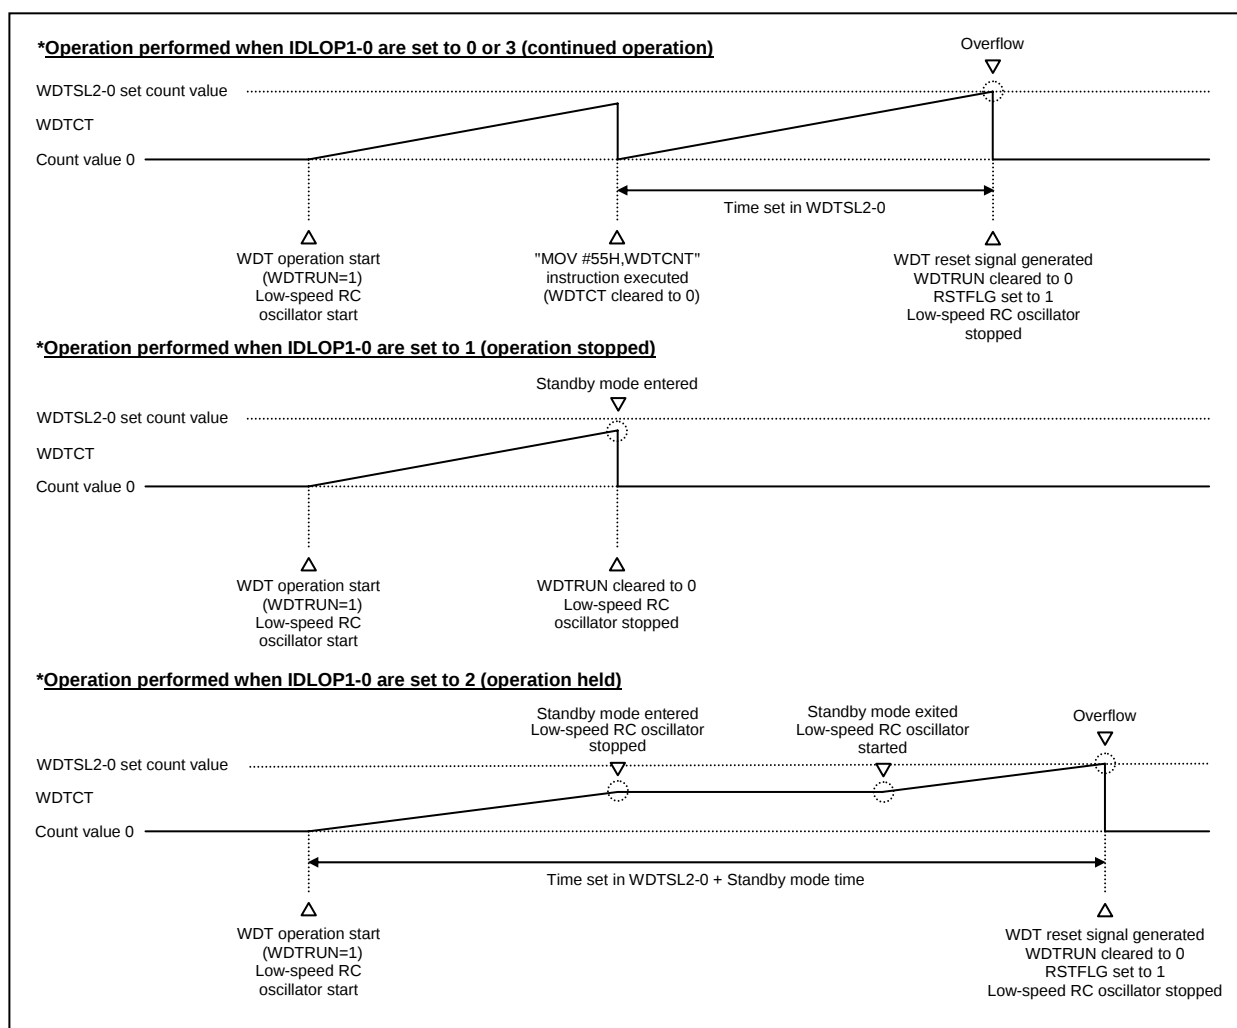

Figure 4.6.2 Sample Watchdog Timer Operation Waveforms
* See Figure 4.6.2 for details on the WDT operation.
* See Figure 4.6.2 for details of the WDT operating modes.